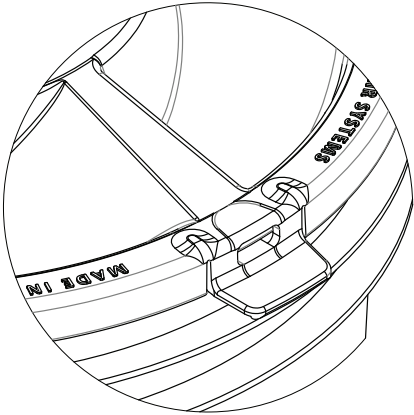

FIG. 8b
*Note: When emptying the Bucket, lift up on latch and pull up on the lid to release the cyclone assembly from the 5 gallon Bucket [FIG. 8b]. It is normal for the lid to fit loosely on the bucket; it will seal securely under vacuum pressure once your wet/dry vac is turned on.*